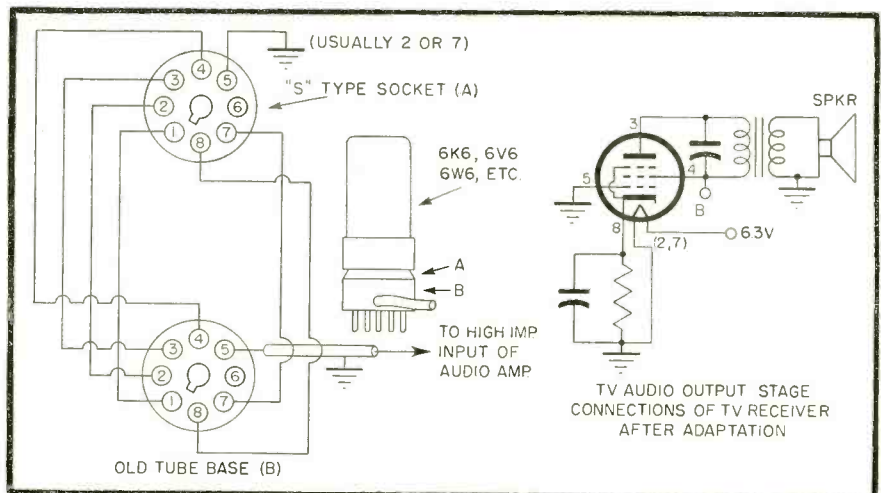

Fig. 1—Recommended when amplifier is close to TV receiver.
First an "S" type of socket (Fig. 1, item A) is fitted into the shell of a tube base (B). The #5 pin of the "S" socket is grounded, thereby grounding out the grid of the audio output tube. The #5 pin of the tube base (B) connects internally to the output connection of the first audio tube so that a lead connected to this point may be brought out to the hi-fi power amplifier.
The diagram in the lower right hand corner of Fig. 1 shows how this modification renders the output stage of the TV receiver inoperative. The incoming signal, on the other hand, is transferred through the connecting cable to the desired hi-fi audio amplifier and speaker combination.